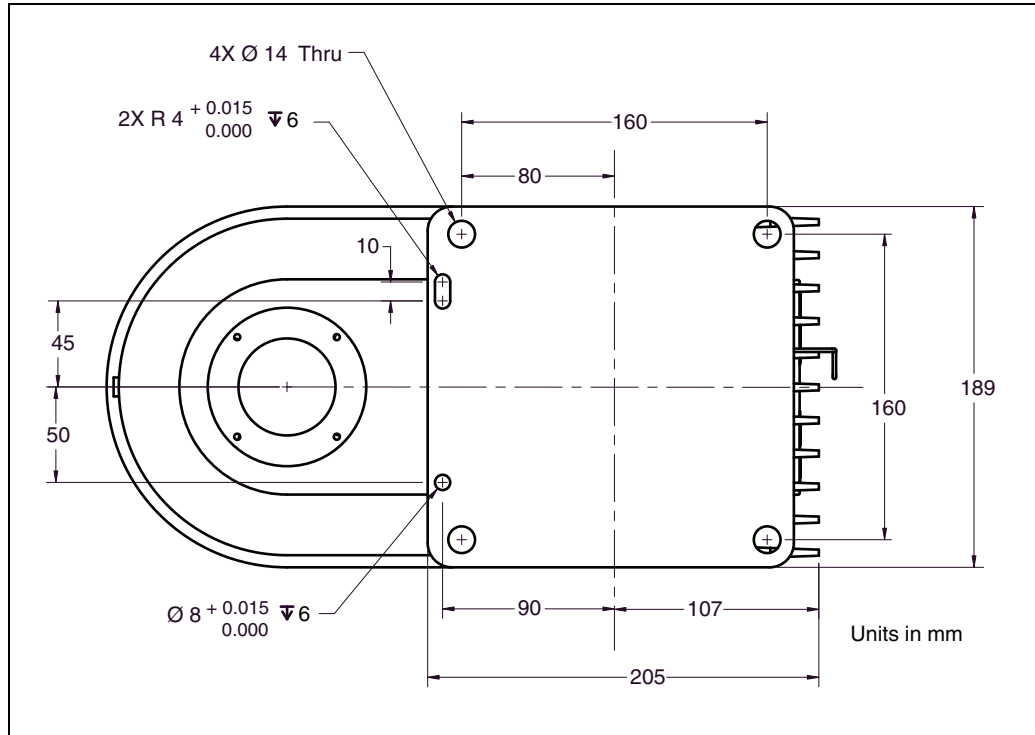

Figure 3-3. Robot Mounting Dimensions for eCobra Inverted Robot
1. Using the dimensions shown in Figure 3-3. , drill and tap the mounting surface for four M12 - 1.75 x 36 mm (or 7/16 - 14 UNC x 1.50 in.) machine bolts (mounting hardware is user-supplied).